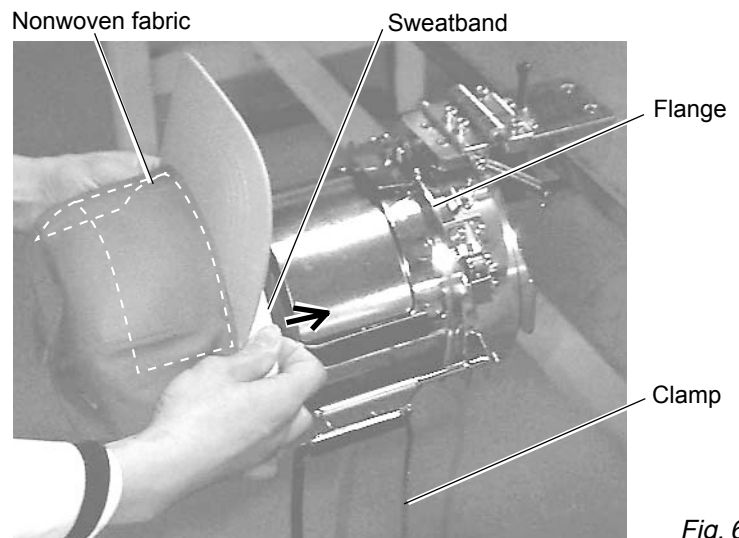

Fig. 6
3. As shown in Fig. 6, open clamp and keep open to the right.